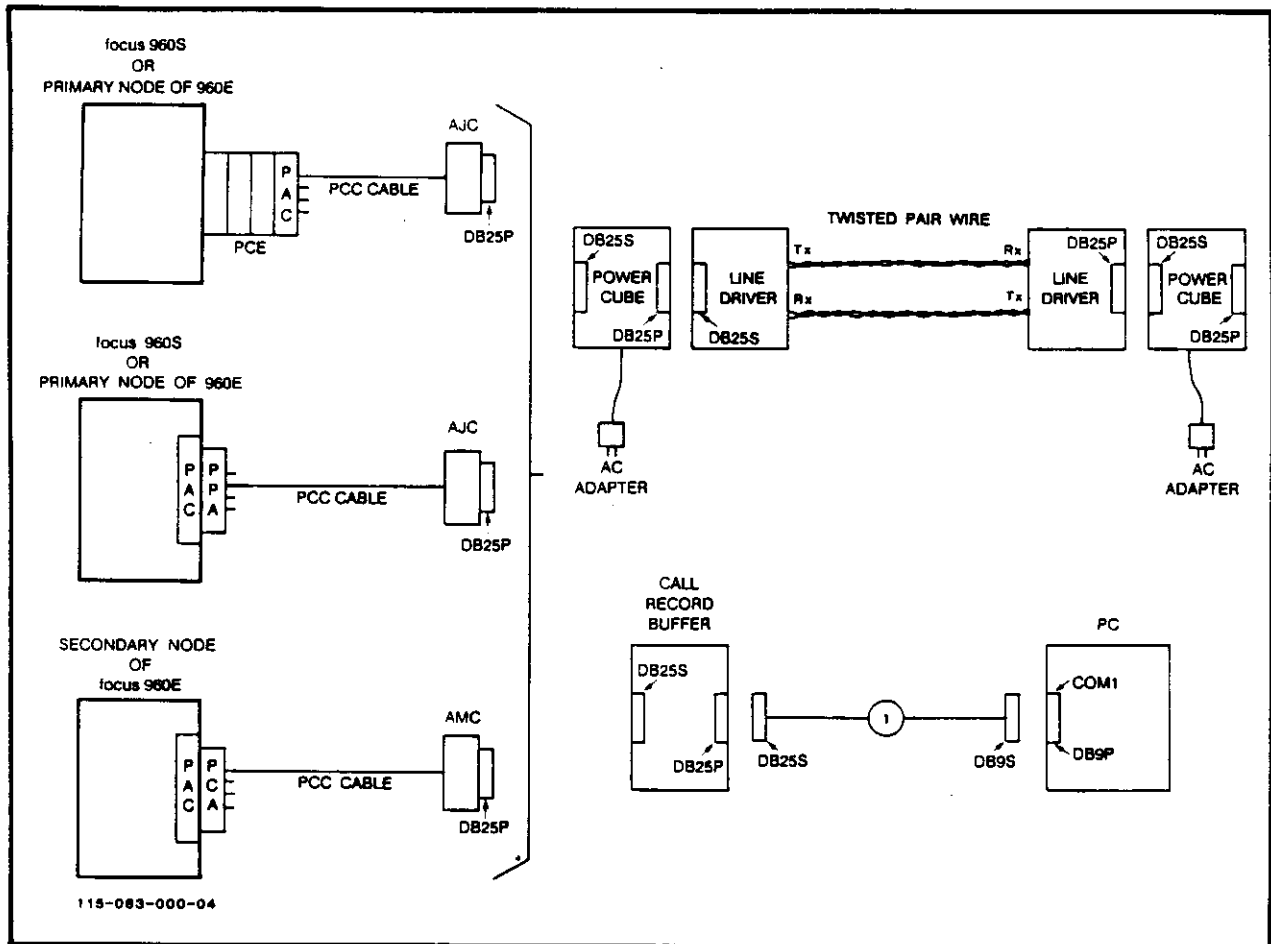

Figure 3-14. Remote PBX to PC SMDR Link with Call Record Buffer
9.02 If you have a remote cable kit and you have a call record buffer, refer to Figure 3-14 and follow these steps.
2. Plug the other end into either the AJA or AMA included with the cable kit. Refer to Figure 3-14 to determine the proper adapter to be used.